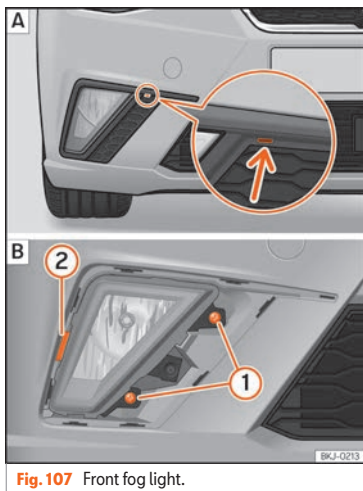

Fig. 107 Front fog light.
1. Lever the groove with a screwdriver » **Fig. 107 [A]** (arrow). Next, remove the clips located on the edge of the grille, levering them gently.